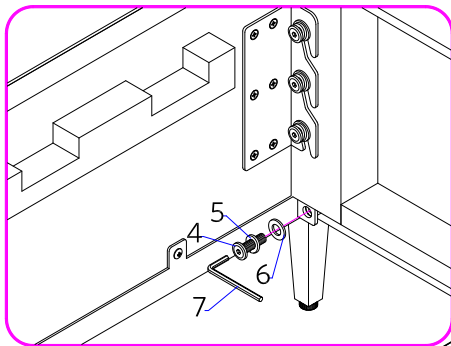

FIGURE 02
Insert set of the Allen bolt (4) together with Lock washer (5) and Flat washer (6) into the holes of the metal plate installed on the bottom of the side rail as in **FIGURE 02**.